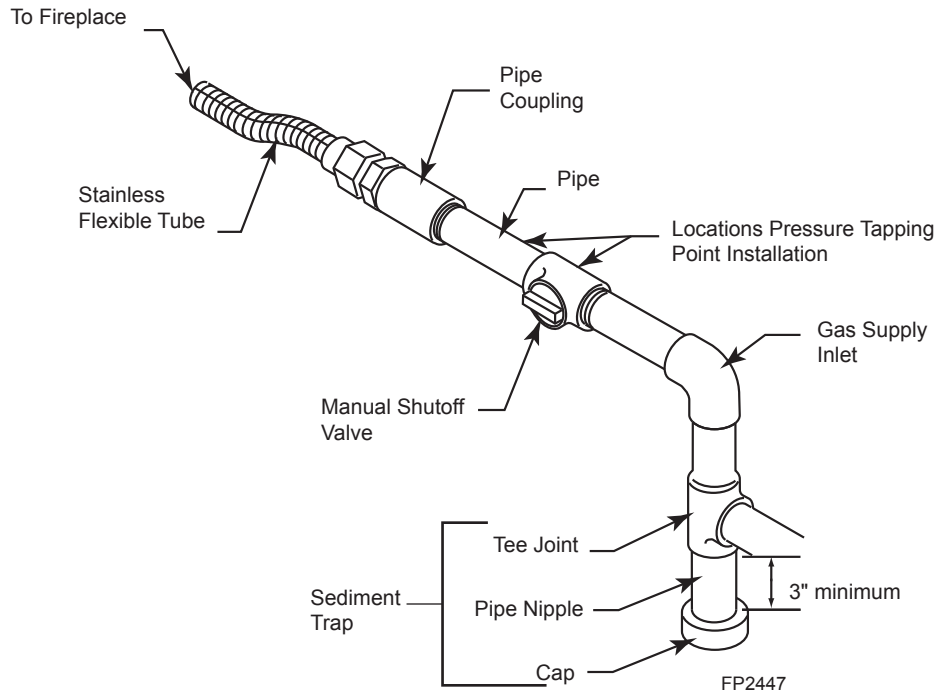

Figure 7 – Gas Connection
4. Plumb gas line. Refer to the *Connect the Gas* (page 13, Figure 7) section found in this manual. (Gas connections should only be performed by an experienced, licensed/certified service person).
A manual shutoff valve must be installed upstream of the appliance. Union tee and plugged 1/8" NPT pressure tapping point should be installed upstream of the appliance. Figure 7
A sediment trap should be installed upstream to prevent moisture and contaminants from passing through the pipe to appliance controls and burners. Failure to do so could prevent the appliance from operating reliable. Figure 7